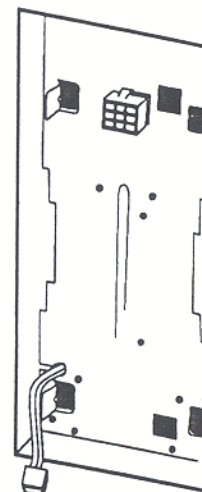

Fig. 2
Step 1. Position rough-in section in wall at intended location and fasten securely. Bar hangers are adjustable from 14" to 24". If desired, brackets may be placed on the short sides of the housing for the end mount units. Loosen two screws securing brackets to the long side of the housing, and secure to the short sides through the keyslots provided. (Fig.2)